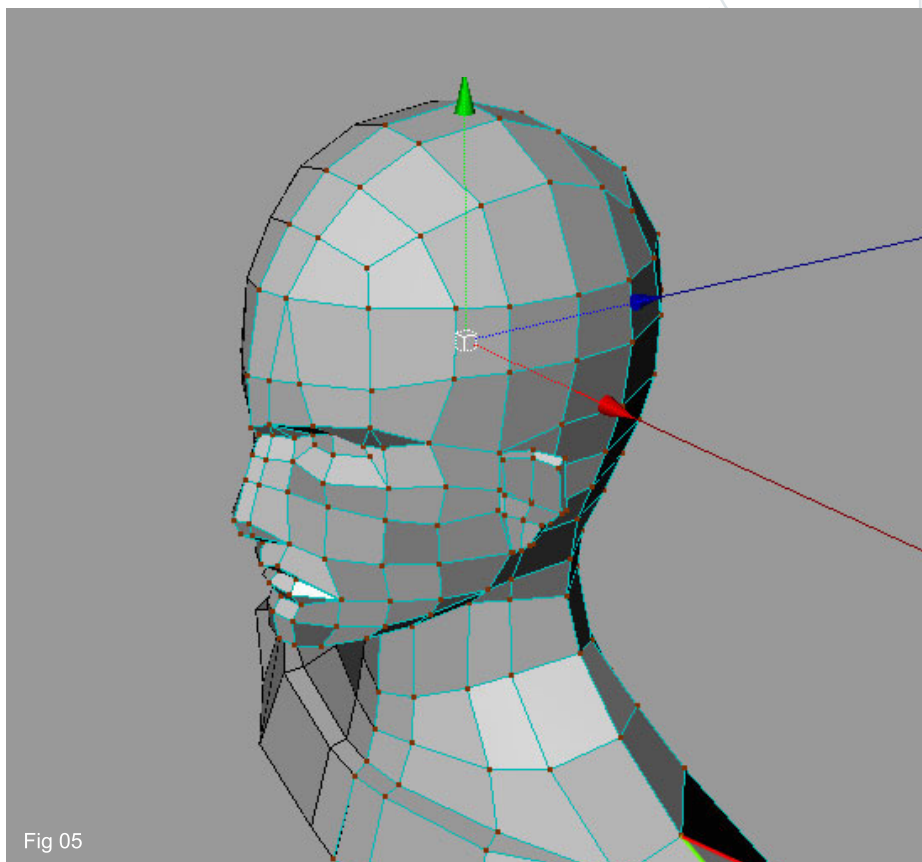

Fig 05
5. The shoulder area is mostly done by simply extruding the edges and adjusting the new verts. Now it's time to start to form the top of the arm area. We need to make two new cuts on the front and back poly's that form the outer edge like shown (Fig05). You will notice that these new edges are represented by the first cut in green and the second in red, the new verts are then moved.